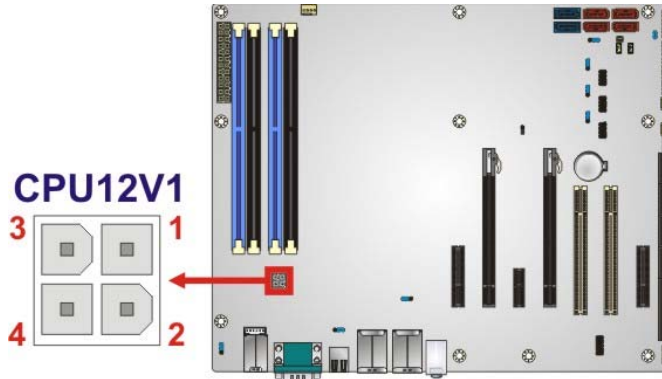

Figure 3-2: +12V Power Connector Location
- CN Location:** See **Figure 3-2**